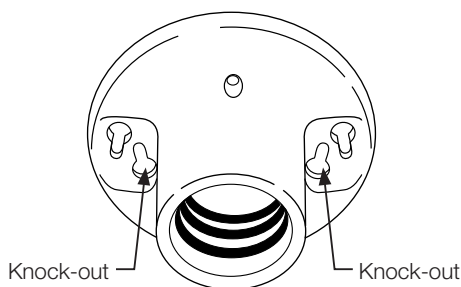

Figure 1
2. For 3 1/4" Standard outlet box mounting, carefully remove KNOCK-OUTS on base of porcelain. (not necessary when mounting on a 4" box) See **figure 1**.